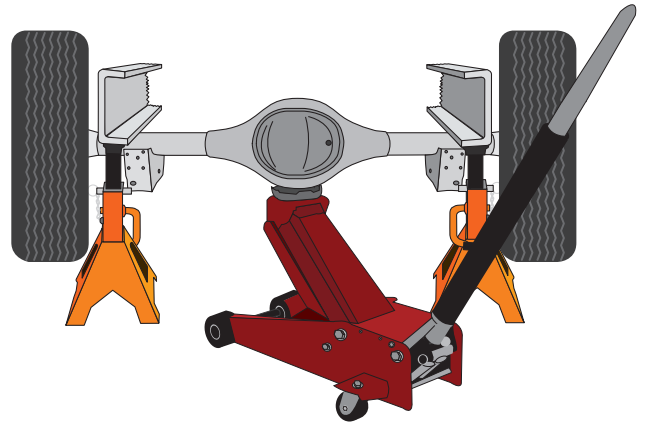

Fig. 2
1. Raise the vehicle and support it in a way, using safety stands or equivalent, that the axle can be safely dropped away from the frame. This will need to be done in order for the air spring assembly to be put into position between the axle and frame (Fig. 2).